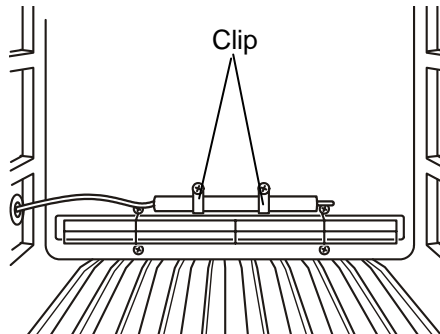

Fig. 9
5. Fix the recorder sensor to the attachment hole on the back side of the refrigerator by using the large clips enclosed with the recorder fitting (MPR-S30: optional component). (Fig. 9)
6. Fix the recorder sensor to the attachment hole on the back side of the refrigerator by using the clips enclosed with the recorder fitting (MPR-S7: optional component). (Fig. 9)